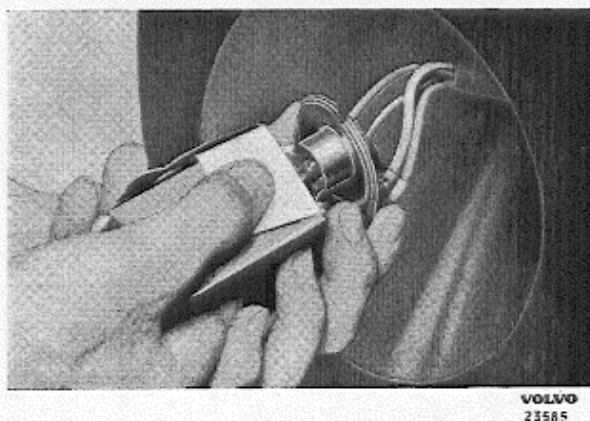

Fig. 16. Replacing headlight bulb.
4. Fit the new bulb. This is done as shown in Fig. 16. Do not touch the actual bulb with the fingers but only pull out the bulb socket far enough from the carton so that the bulb can be fitted. Any dirt, oil, etc., on the bulb glass will become carbonized, causing damage to the reflector. This considerably impairs lighting strength.